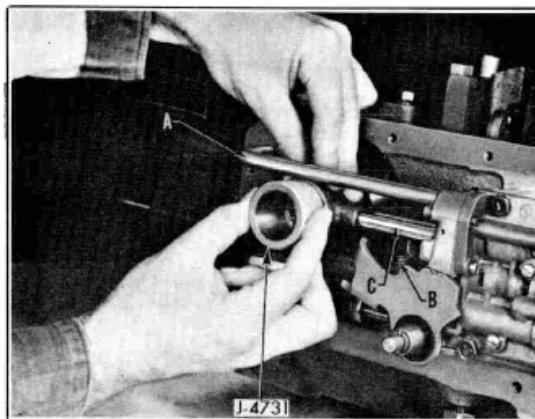

Figure 16
6. Install the parking pawl return spring (B) over the inside oil delivery pipe (open end of hook out) and hook other end over the parking brake lever pin groove, Figure 16.
7. Install the reverse clutch pipe (A), Figure 16, with "L" end in rear of transmission case.
8. Install the control valve assembly over the three oil delivery pipes (C) and reverse clutch pipe (A), and start control valve attaching bolts. Place detent control lever in "LO" position and press valve body and parking brake bracket assembly against transmission case and tighten valve body bolts evenly to 6-8 ft. lbs.
With the rear pump bolts and parking bracket bolts loose, install the governor to sleeve aligning tool J-4731 over the governor, Figure 16. With alignment tool in place, tighten the rear pump bolts and parking bracket bolts. Tool should rotate freely, and governor should rotate freely as much as gear backlash allows. Rotate output shaft to turn governor  $\frac{1}{4}$  turn and check governor and